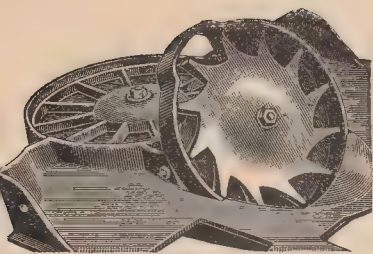

Fig. 115
**Dropping of the Seed.**—After placing the seed in the hopper it is then carried by means of an elevator wheel and deposited in the corresponding pocket of the revolving feed wheel. For illustration of the elevator wheel and the feed wheel see Figs. 115 and 186. In order to suit the different size cuttings of the seed, we furnish three sizes of elevator wheels, each having different sized pockets; one for small cut seed, numbered P—129; one for medium, numbered P—107; one for large, numbered P—126. The knowing of which wheel to use for the elevation of the different sized cuttings must be left to the judgment of the operator—actual trial soon shows which